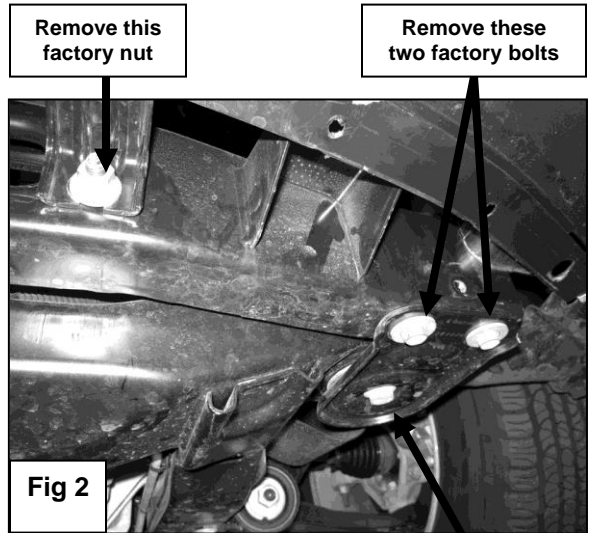

Fig 2
- Remove the driver side factory hex nut located on the cross member bar. This is the hex nut that mounts the radiator support (**Figure 2**).
- Locate the driver side motor mount bushing. Use a 15mm socket to remove the two front (small) bolts. Proceed to loosen up the rear (large) bolt just enough so you can slide the Mounting Bracket in between motor mount support and frame (**Figure 2**).